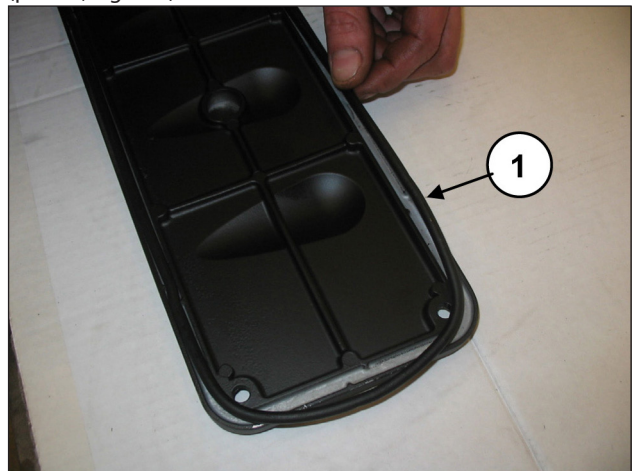
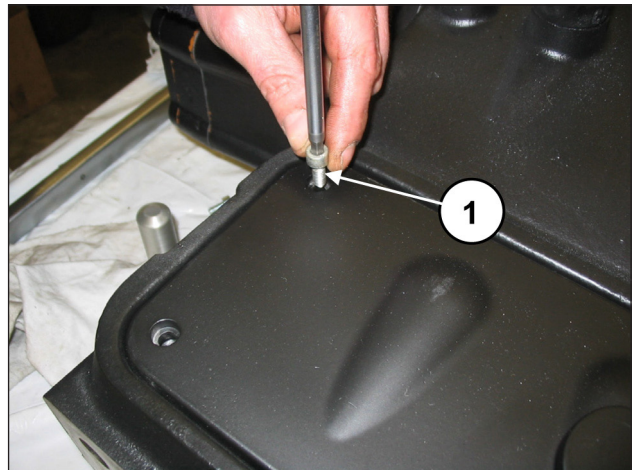

Fig. 144
Fig. 145
Insert the O-ring on the inspection covers (pos. ①, Fig. 144) and assemble the covers with the use of 4+4 M6x14 screws (pos. ①, Fig. 145).